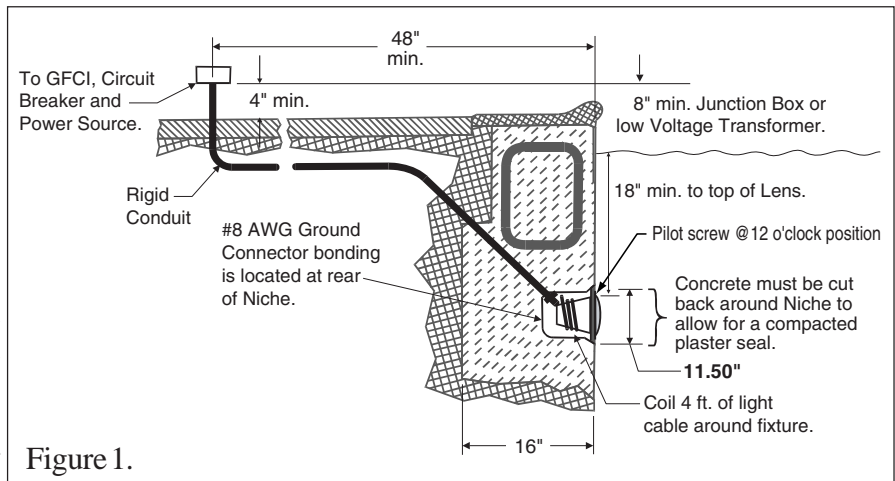

Figure 1.
A. Preparatory steps which must be completed by the electrician before light fixture is installed; see Figure 1.
- b. The Junction Box (or, for 12 volt models, the low voltage transformer) must be located at least 8 inches above water level, 4 inches above ground level, and at least 48 inches from the edge of the pool; see Figure 1.
- d. The wet niche must be properly installed so the pilot screw hole is at the 12 o'clock position and that the top edge of the underwater light's lens is at least 18 inches below the surface of the water in the pool; see Figure 1.
- e. The wet niche must be properly electrically bonded and grounded via the No. 8 AWG ground connector located at the rear of the niche; see Figure 1.
1. Feed cord through conduit to Junction Box, leaving at least 4 feet of cord at the light fixture to coil around the light; see Figure 1. This 4 feet of cord around the light allows the light to be serviced after the pool is filled with water.
- b. The Junction Box (or, for 12 volt models, the low voltage transformer) is located at least 8 inches above water level and at least 4 inches above ground level and at least 48 inches from the edge of the pool; see Figure 1.
- d. The wet niche is properly installed so that the top edge of the underwater light's lens is at least 18 inches below the surface of the water in the pool; see Figure 1.
- e. The wet niche is properly electrically bonded and grounded via the No. 8 AWG ground connector located at the rear of the niche; see Figure 1.
5. Leave at least 4 feet of cord to coil around the light fixture; see Figure 1. This 4 feet of cord coiled around the light allows the light to be serviced after the pool is filled with water.